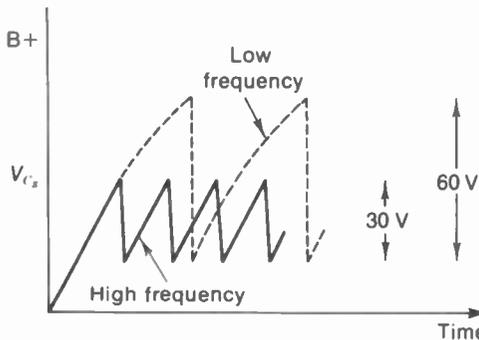

FIGURE 20-15 EFFECT OF FREQUENCY ON AMPLITUDE OF SAWTOOTH VOLTAGE OUTPUT.
**Effect of oscillator frequency on sawtooth amplitude.** It should be noted that the frequency is determined by the oscillator grid circuit, while the sawtooth capacitor in the plate circuit of the discharge tube determines amplitude and linearity of the sawtooth voltage output. However, changing the frequency will affect sawtooth amplitude and linearity. This idea is illustrated in Fig. 20-15. With any given time constant for  $C_x$  on charge, if the frequency is higher, less time is available for charging. Then  $C_x$  is charged to a lower voltage at the time of discharge. For the opposite case, a lower frequency allows  $C_x$  to charge to a higher voltage before discharge occurs, producing more sawtooth voltage output.